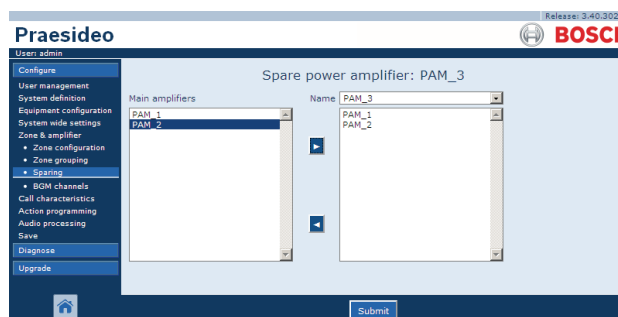

figure 46.13: Sparing, step 3
- 3 Select the main amplifier that must be assigned to the spare amplifier from the left box (see figure 46.13).